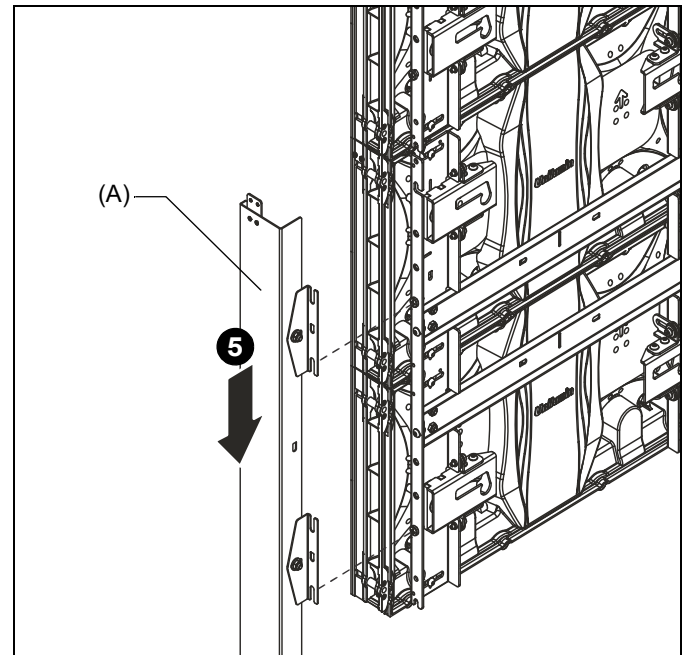

Figure 4
5. Slide the lower side cover (A) down onto the side of the mount by hanging the brackets onto the Phillips screws installed in Step 2. (See Figure 4)